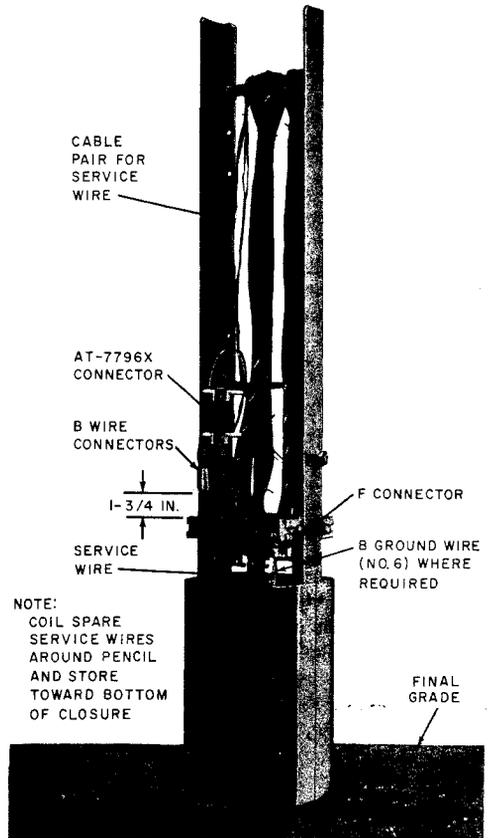

Fig. 28—Service Wire Installed
9.05 Place the screw of the AT-7796X Connector in the proper slot of the bracket assembly and tighten securely. Run the pair of wires from the service wire up and then down through the plastic clips. Run the cable pair through the same plastic clips. Cut the cable pair and service wire pair even. Connect the cable pair and service wire pair with B Wire Connectors (Fig. 28).